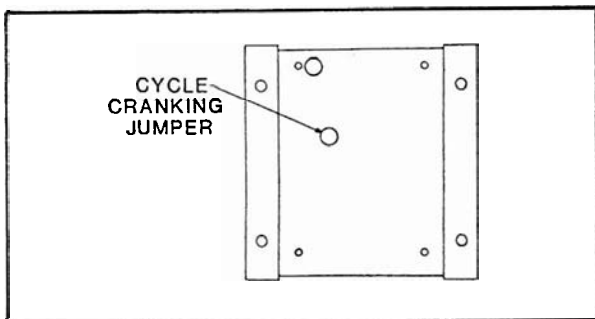

Figure 3. E.C.M. Backside
- b. Cycle cranking feature - the controller may be field-converted to the "cycle cranking" feature by cutting the jumper wire located through the access hole nearest the middle of the back of the controller. (See Figure 3). This feature provides a series of five cranking cycles, each 12 seconds long with a 12-second rest period between each. Failure of the engine to start by the end of the fifth crank period results in an "overcrank" shutdown and alarm indication.